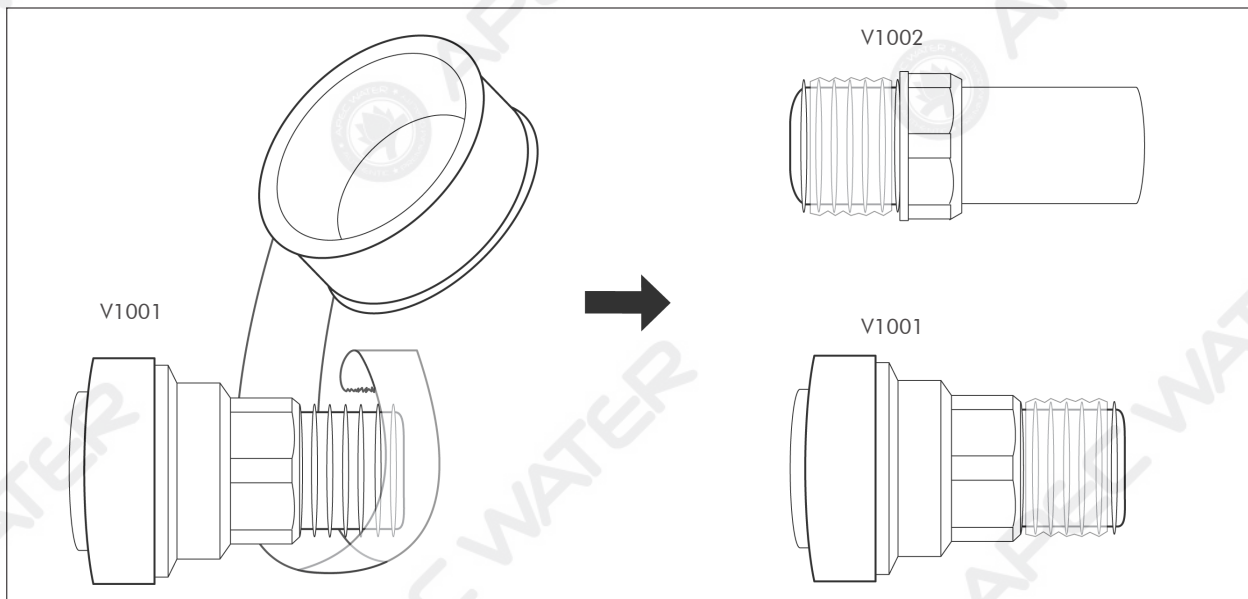

Fig.1
Step 1. Please wrap Teflon tape 1-2 times on the thread of V1001 and V1002. See **Fig.1**.